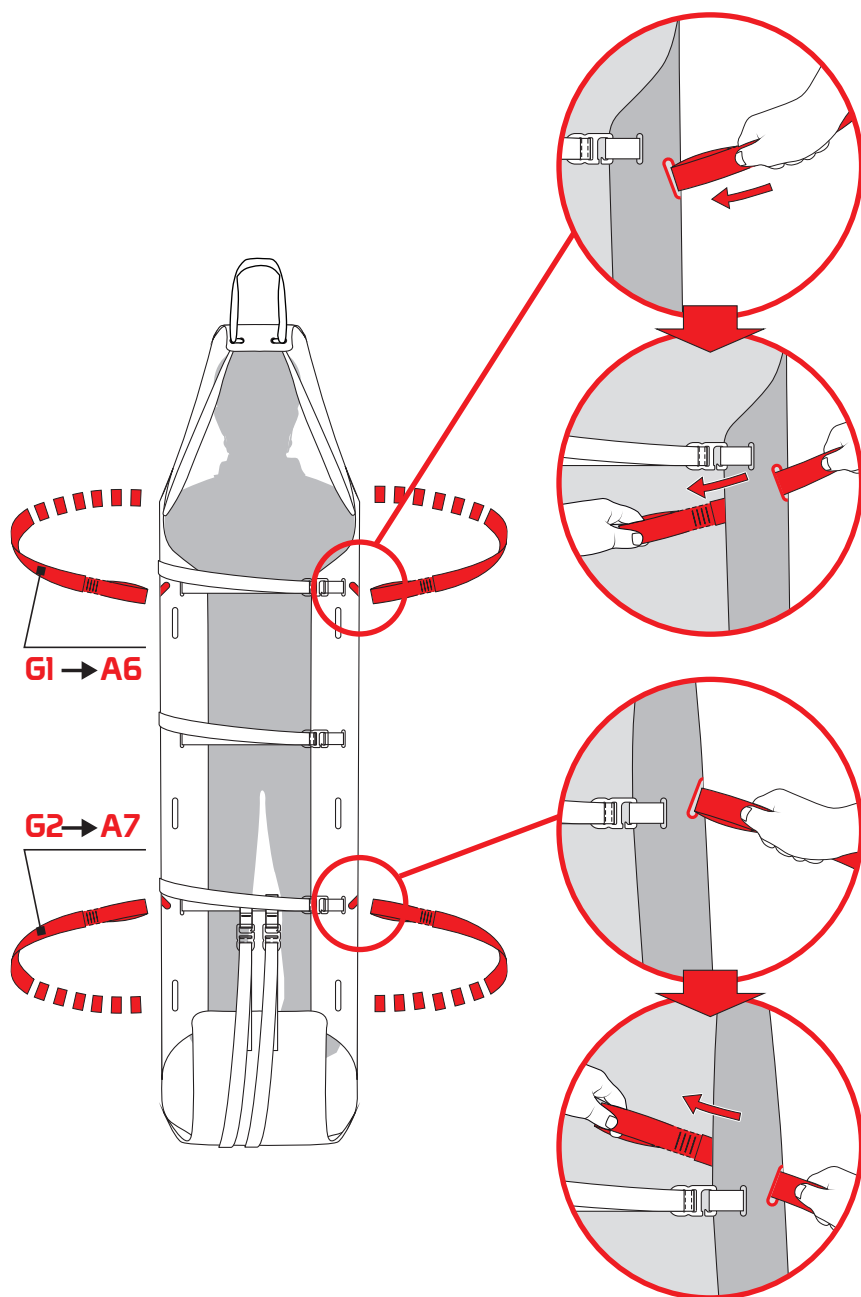

Fig.11
b) lifting/lowering and/or transportation using the lifting kit (G): insert the short hanging kit (G1) in the eyelets A6 and the long hanging kit (G2) in the eyelets A7 on the support surface (fig. 11).